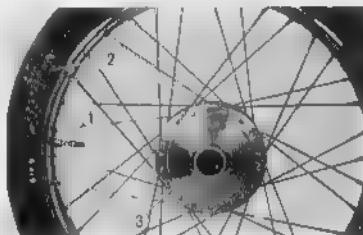

Fig. 4.92 Valve in tire
b. The valve stem must be pointed radially toward the center of the wheel. (Fig. 4.92)